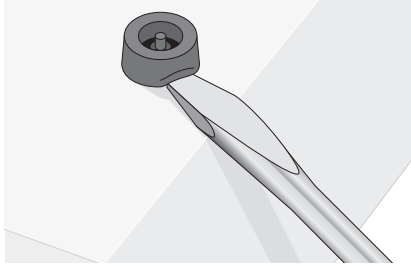

Figure 5 Removing the Rubber Feet
1. If attached, remove the four protective feet from the bottom of the switch as shown in Figure 5.